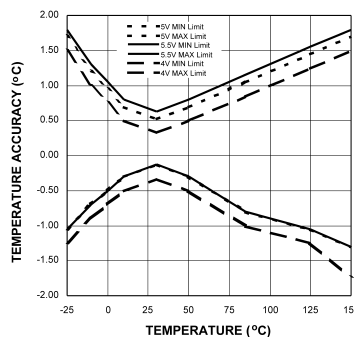
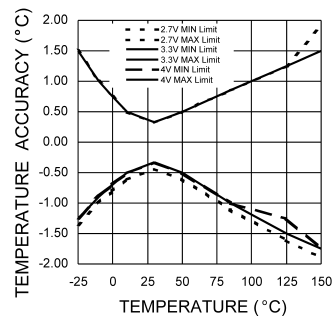

Figure 2. Accuracy vs Temperature with $+V_S = 5V$
Figure 3. Accuracy vs Temperature with $+V_S = 3.3V$
(1) Typical values are at $T_A = 25^\circ C$ and represent most likely parametric norm.
(2) Limits are guaranteed to TI's AOQL (Average Outgoing Quality Level).
(3) The limits found in Table 1 supersede the limits shown in the Electrical Characteristics Table. The Accuracy specification includes errors due to linearity, offset and gain. The accuracy specification includes effects of self heating with negligible digital output loading. Pull-up resistors should be maximized (10k typical recommended), so that self heating due to digital output loading is negligible.
(4) Limits at intermediate temperatures can be calculated using a straight line interpolation as shown in Figure 2 and Figure 3.
(5) Linearity Error is defined as the worse case difference of an actual reading to that of a calculated reading derived from the straight line whose endpoints are measured at $30^\circ C$ and $125^\circ C$ for the range of $30^\circ C$ to $125^\circ C$ or whose endpoints are measured at $30^\circ C$ and $-25^\circ C$ for the range of $30^\circ C$ to -25° .
(6) Offset Error calibration should be done at $30^\circ C$. The residual error of the transfer function is then equivalent to the Accuracy Limit minus the Offset Limit. This does not take into account the power supply sensitivity of the offset error. Nor, does it take into account the error introduced by the calibration system used.
(7) This specification is provided only to indicate how often temperature data is updated. The LM92 can be read at any time without regard to conversion state (and will yield last conversion result). If a conversion is in process it will be interrupted and restarted after the end of the read.
(8) 12 bits + sign, two's complement
(9) Default values set at power up.